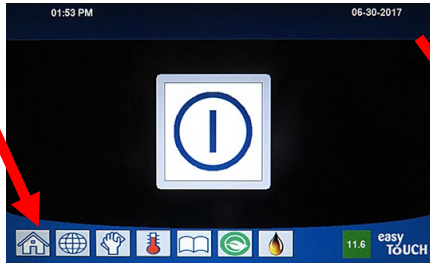

Figure 36
1. **WAIT FIVE (5) MINUTES** before proceeding to the next step.
2. Press the “HOME” button on the (see Figure 36).
9. Press the “HOME” button (see Figure 36) when finished.